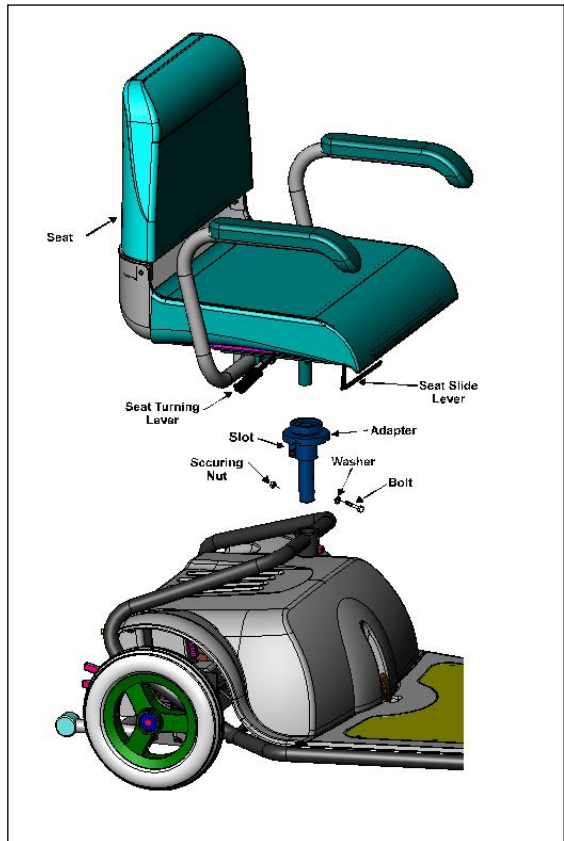

Figure 11
2.5 *Seat Installation (Figure 11)*
- a. In the **High** speed mode (marked by the “hare” symbol next to the **Speed Selector** switch) the maximum attainable speed is 7.5 km/h (4.6 mph) When selector is in **High Speed Mode** – Green light of switch is ON. (See Fig. 11).